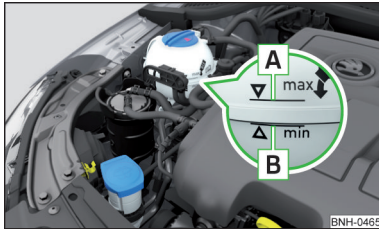

Fig. 121
The description of the coolant is shown in the coolant expansion reservoir » Fig. 121 on page 143.
- Do not fill the coolant above the mark  » Fig. 121 on page 143.
**Coolant expansion reservoir** » Fig. 121
► Check the coolant level in the coolant expansion tank » Fig. 121.
If the engine is warm, the test result may be inaccurate. The level can also be above the mark **A** » Fig. 121.